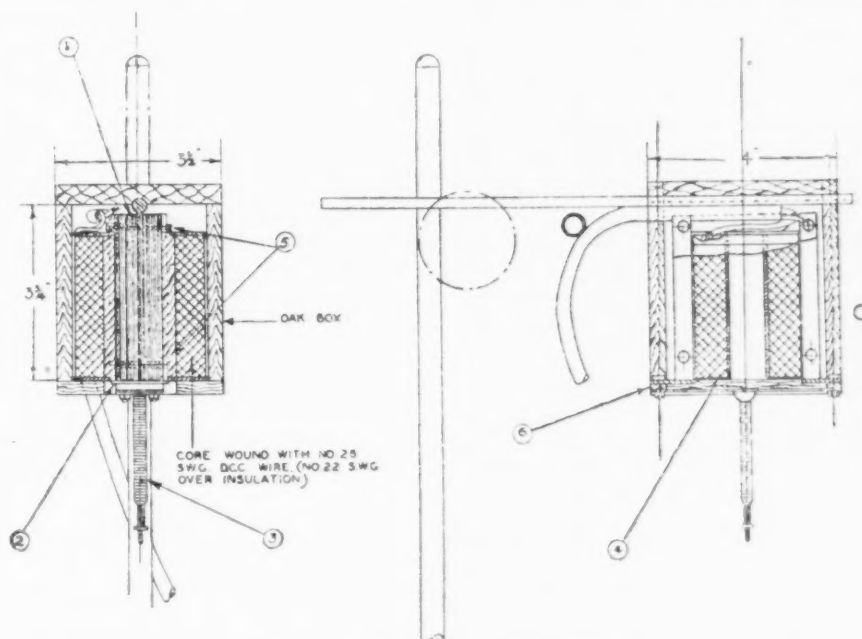

FIG. 1.—B.N.F. Adhesion Tester.
The laboratory model of the apparatus is illustrated in Figs. 1 and 2. An E-shaped yoke (1), 1.0" width, was built from stalloy transformer laminations, and was fitted with a bobbin wound with cotton-covered wire (24 S.W.G.). A bracket of brass (2) attached to each of the side legs of the yoke served the double purpose of fixing the yoke to an oak hood and also of holding the steel reed, 4 x 1 x 0.02" in size, which was bolted on to two cushions of solid rubber (6).